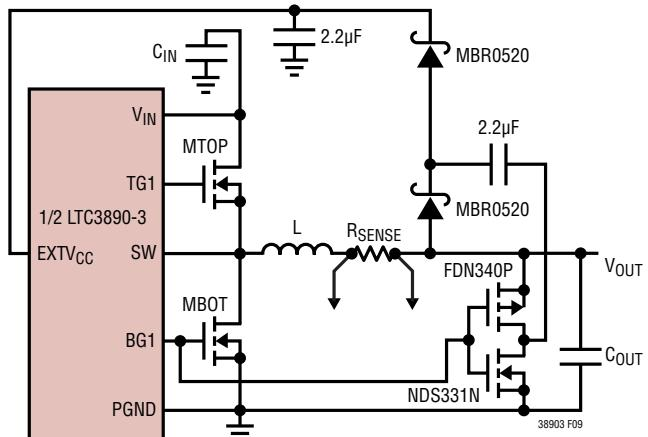

Figure 9. Capacitive Charge Pump for EXTVcc
4. EXTV_{CC} Connected to an Output-Derived Boost Network. For 3.3V and other low voltage regulators, efficiency gains can still be realized by connecting EXTV_{CC} to an output-derived voltage that has been boosted to greater than 4.7V. This can be done with the capacitive charge pump shown in Figure 9. Ensure that EXTV_{CC} < V_{IN}.